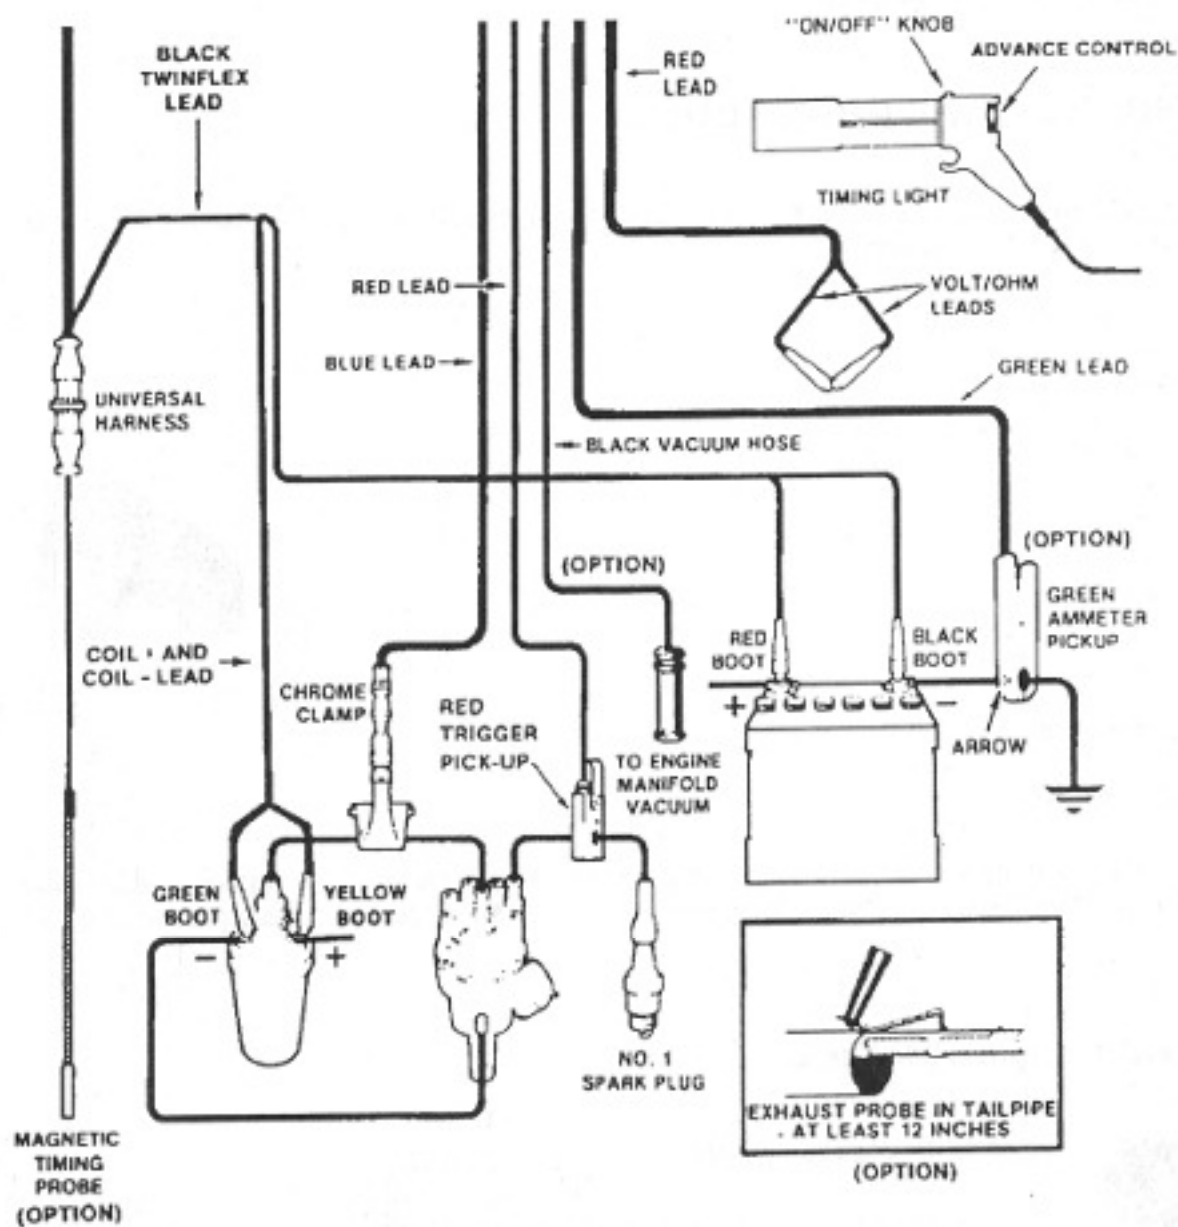

FIGURE 32. Tester Hook-up to Vehicle.
6. Press the **[F1]** key. The CALIBRATION page (Figure 30) will be displayed. Short the volt-ohm leads together (reference Figure 32). The message SHORT VOLT/OHM leads will flash on and off on the VDU until this is done. Do not attempt tester calibration while the test leads are attached to a vehicle. Incorrect calibration will result. (Optional items not installed will not be displayed on this page.)
10. Connect the test leads always with the engine off (Figure 32) as follows: